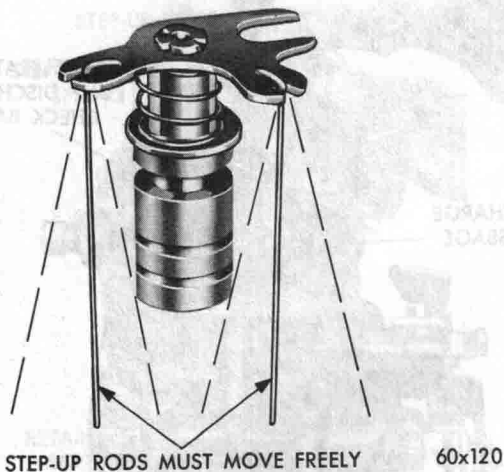

Fig. 13—Step-up Rod Free Play
(14) Before installing the step-up piston, be sure the step-up rods are able to move freely each side of the vertical position, as shown in Figure 13. The step-up rods must be straight and smooth.
(15) Slide the step-up piston gasket down into position in the piston well, then install the step-up piston spring and step-up piston and rods. Carefully guide the step-up rods into the main metering jets.